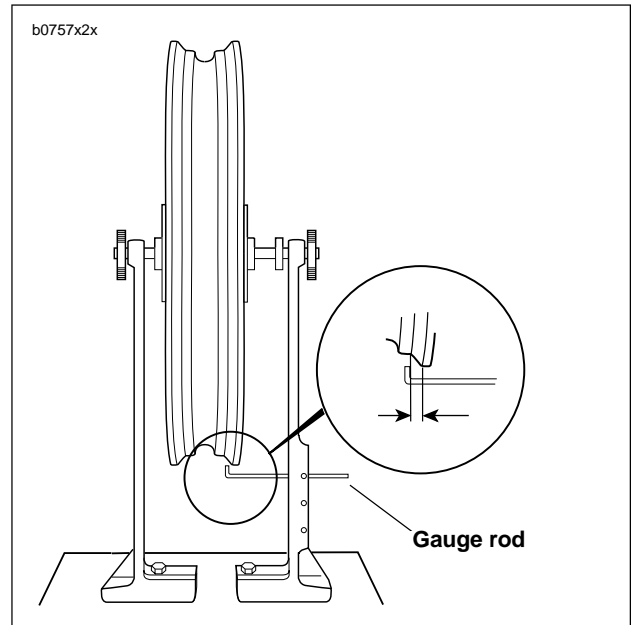

Figure 2-28. Checking Cast Rim Lateral Runout Using Wheel Truing and Balancing Stand (HD-99500-80)
1. See Figure 2-28. Figure 2-28. Install truing arbor in wheel hub and place wheel in WHEEL TRUING AND BALANCING STAND (Part No. HD-99500-80).